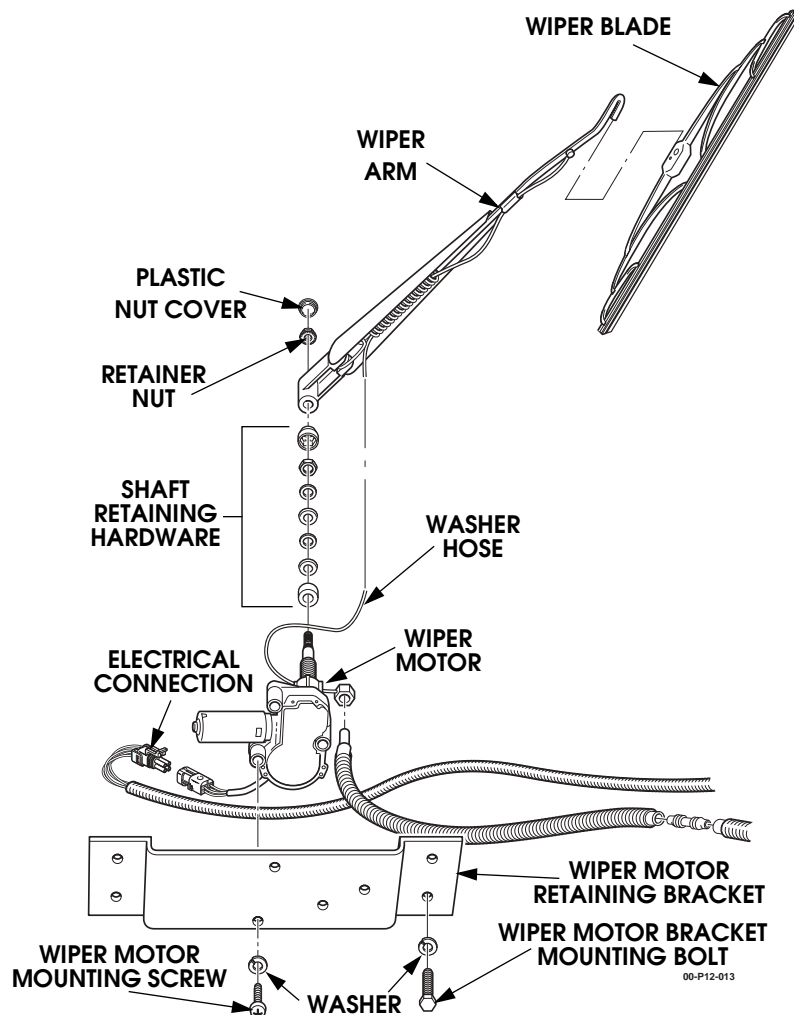

Figure 10-180: Window Wiper Assembly Replacement
1. Remove the protective nut cover from the base of the wiper arm (Figure 10-180).
1. Assemble the wiper motor and mounting bracket with the wiper motor mounting hardware (Figure 10-180).